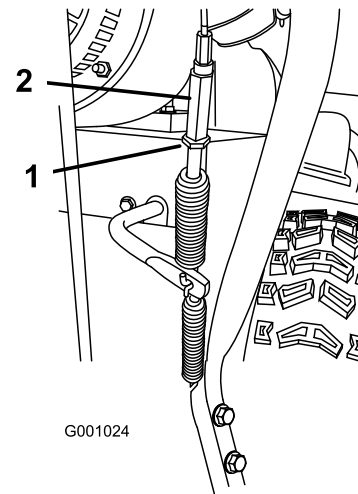

Figure 39
- Loosen the jam nut (Figure 39).
- Loosen or tighten the turnbuckle that adjusts the tension on the cable (Figure 39).